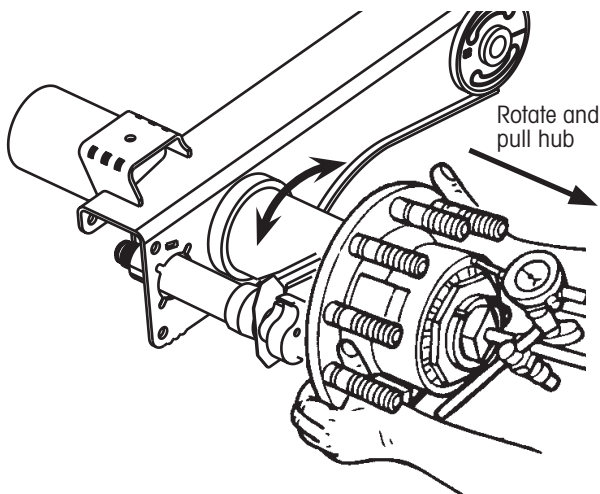

Figure 7: Checking outward end-play
8. While still grasping hub (Figure 7), **rotate** the hub in both directions while **pulling** the hub outward until the dial indicator reading remains constant. **Record** reading.